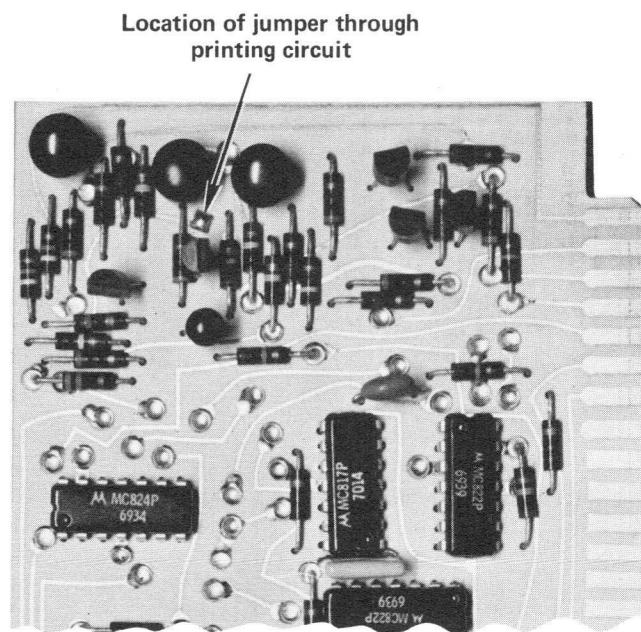

Figure 4.2 Printed Circuit Board 715-0901 for Printout Control
3. The 715 includes a jumpered connection for the collector of Q11 on its 715-0901 printed circuit board as shown in Fig. 4.2. Remove the jumper wire to restrict the Counter A printout to its six least significant digits and make it compatible with the standard program for the 432 Printout Control. After removing the jumper wire, remove all traces of solder in the through-hole between the two board faces with a #55 drill bit.
1. The 715 includes a jumpered connection for the collector of Q11 on its 715-0901 printed circuit board as shown in Fig. 4.2. Remove the jumper wire to restrict the Counter A printout to its six least significant digits and make it compatible with the standard program for the 432 Printout Control. After removing the jumper wire, remove all traces of solder in the through-hole between the two board faces with a #55 drill bit.